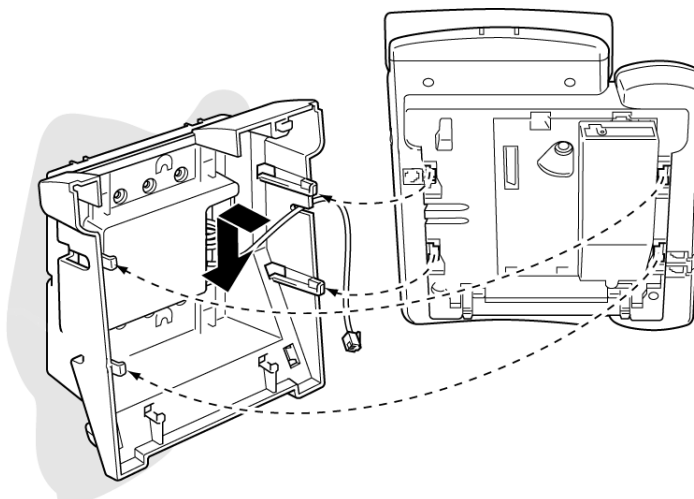

Figure 4-33: Attaching the Multiline Telephone to the Wall Mount Unit
4. Install the telephone over the four tabs on the base cover, and push down until it clicks in place as illustrated in *Figure 4-33: Attaching the Multiline Telephone to the Wall Mount Unit*.